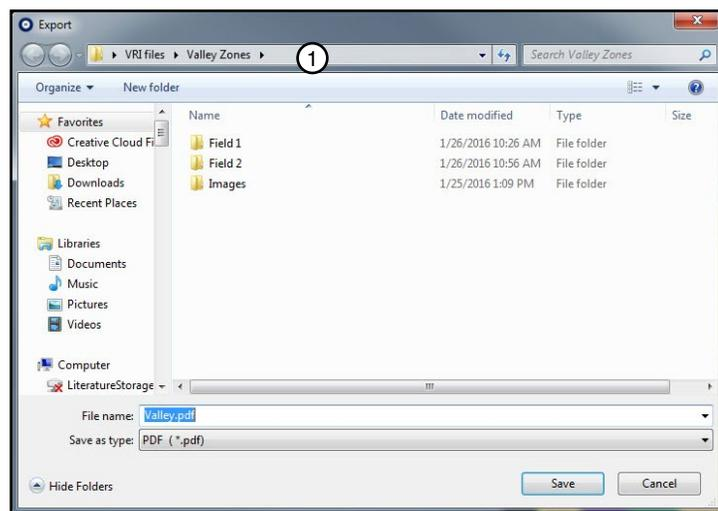

Figure 34-3 Export Screen 1. Folder Location
3. Locate the folder in which you want to store the PDF file, and click **Save**. See Figure 34-3.